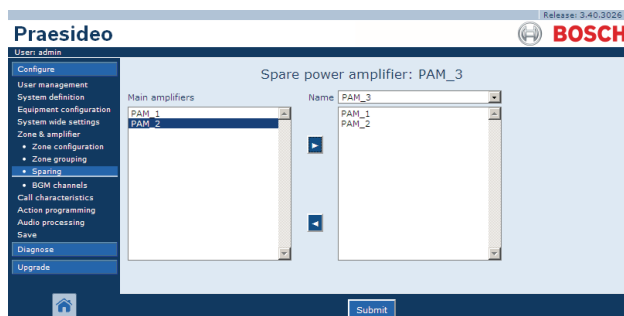

figure 46.14: Sparing, step 4
- 4 Double click the selected main amplifier or click the > button to assign the main amplifier to the spare amplifier. A screen similar to the one in figure 46.14 appears in the main frame of the web interface.